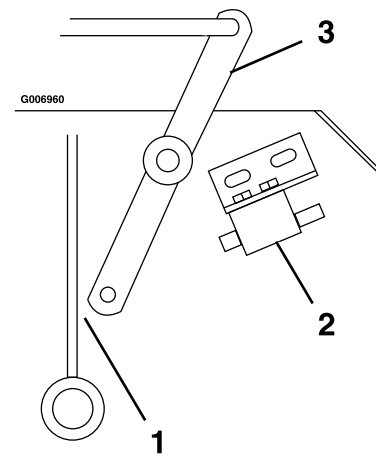
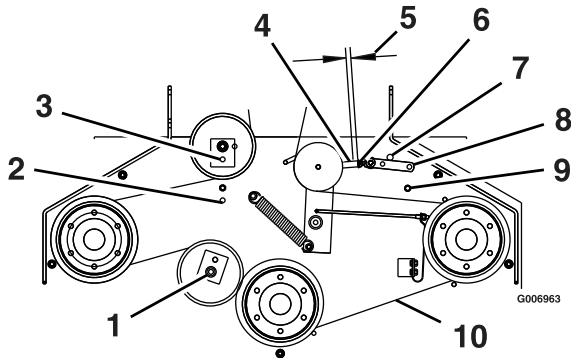

Figure 14
Figure 15
- With PTO engaged (lever pulled up, adjust the linkage length to where the lower end of the bellcrank just clears the axle support gusset (see Figure 14). Make sure the assist arm is against the rear assist arm stop on the deck (see Figure 15). Push the lever down to the disengaged position. The assist arm should contact the front assist arm stop on the deck. If it does not contact, readjust so that the bellcrank is closer to the gusset.
mower to tighten, and toward front of mower to loosen belt tension (see Figure 15).
For 48 inch Decks: If there is no adjustment left in the turnbuckle and the belt is still loose, the rear idler pulley can be repositioned in the front hole (see Figure 15). The belt guide located next to the pulley must also be repositioned in the front hole when the pulley is moved. The turnbuckle will need to be readjusted.
5. Proper belt tension will require about 10 lb (4.5 kg) side pull on belt, halfway between pulleys (see Figure 15, item 10–Point A) to deflect belt 1/2 inch (1.3 cm).